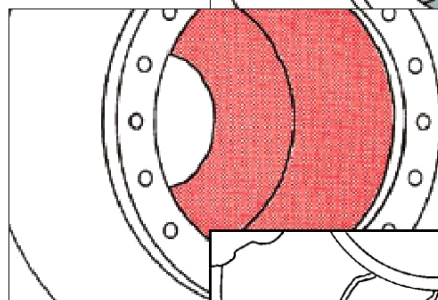

Figure 4
4. Next, topcoat the entire volute area with Devcon's **Brushable Ceramic #11760** or **#11765**. Multiple coats are for a "Pin hole" free finish. This creates a 15-25 mil chemical resistant coating to protect the interior of the casing (Figure 4).